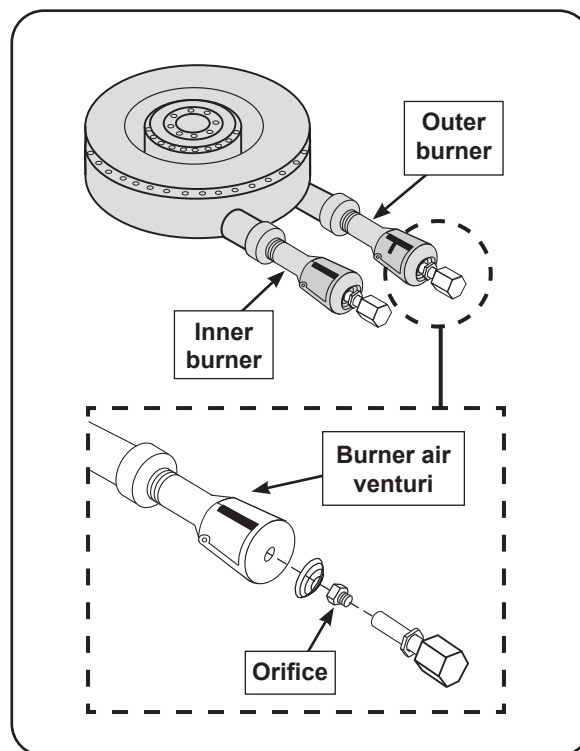

Fig. 52-1 Burner orifice orientation
2. Locate the orifices. The orifice size is stamped on each orifice face (see Fig. 52-1).